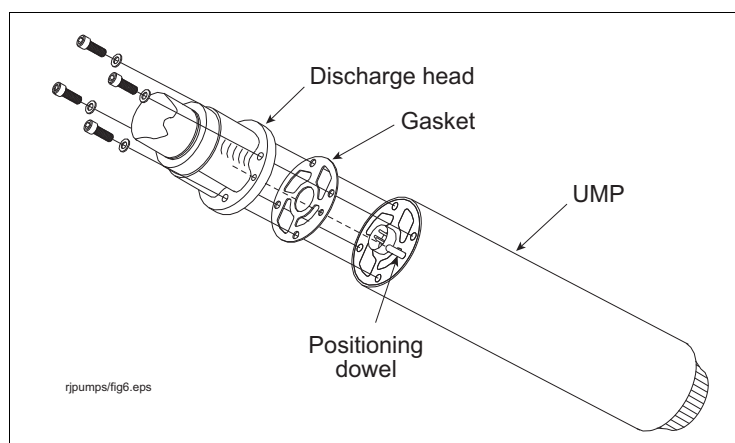

Figure 8. Aligning The UMP Gasket
2. Place the new gasket on the new UMP so that all holes align (see Figure 8).
4. Install the UMP retaining bolts and lock washers (see Figure 8). Snug and then torque the bolts using a cross pattern. Torque to 7 ft-lbs (11 N•m).